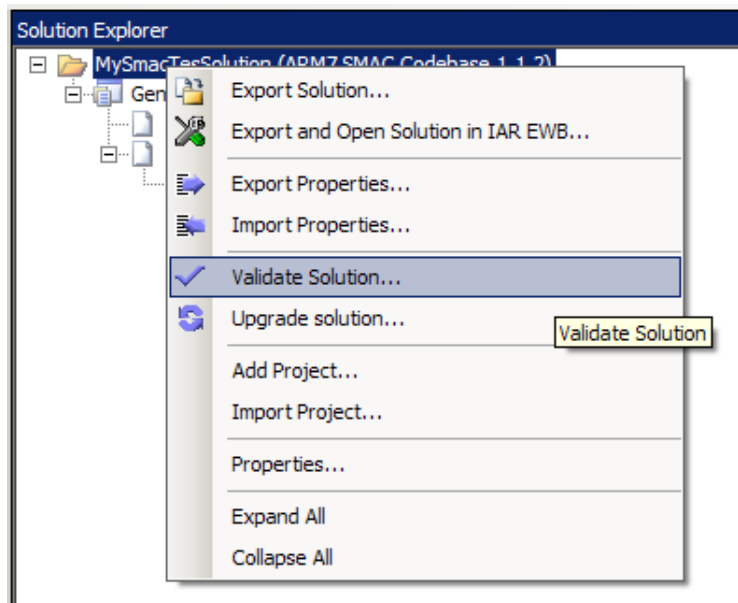

Figure 1-5. Validating a Solution
- Users must now validate the solution as shown in Figure 1-5. The validation process helps users find possible inconsistencies between the selected hardware and properties.